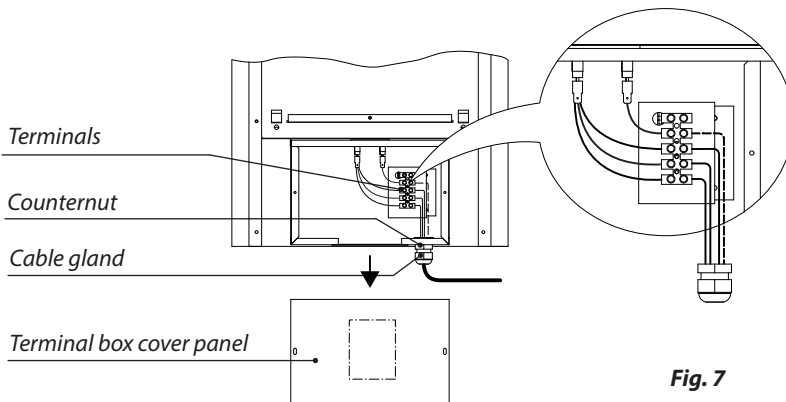

Fig. 7
- Electrical connection shall be made as per Fig. 7 and connection example.